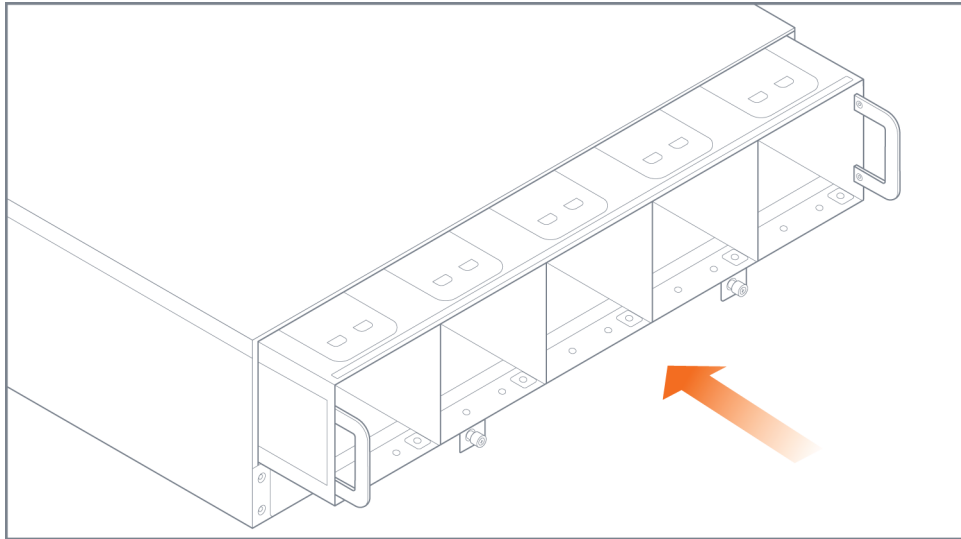

Figure 4-12: Fan Tray Insertion
2. Place the empty fan tray into the slot and slide it in. Refer to Figure 4-12 on page 82.